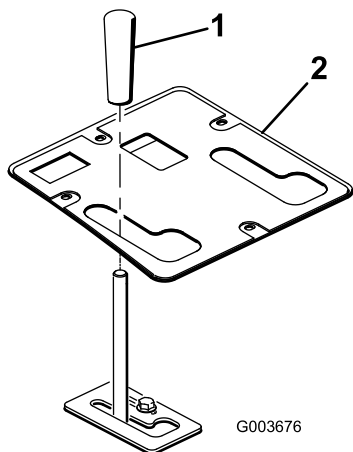

Figure 26
11. Secure the control panel in place with the fasteners previously removed (Figure 26).
12. Install the knob onto the lift lever (Figure 26).